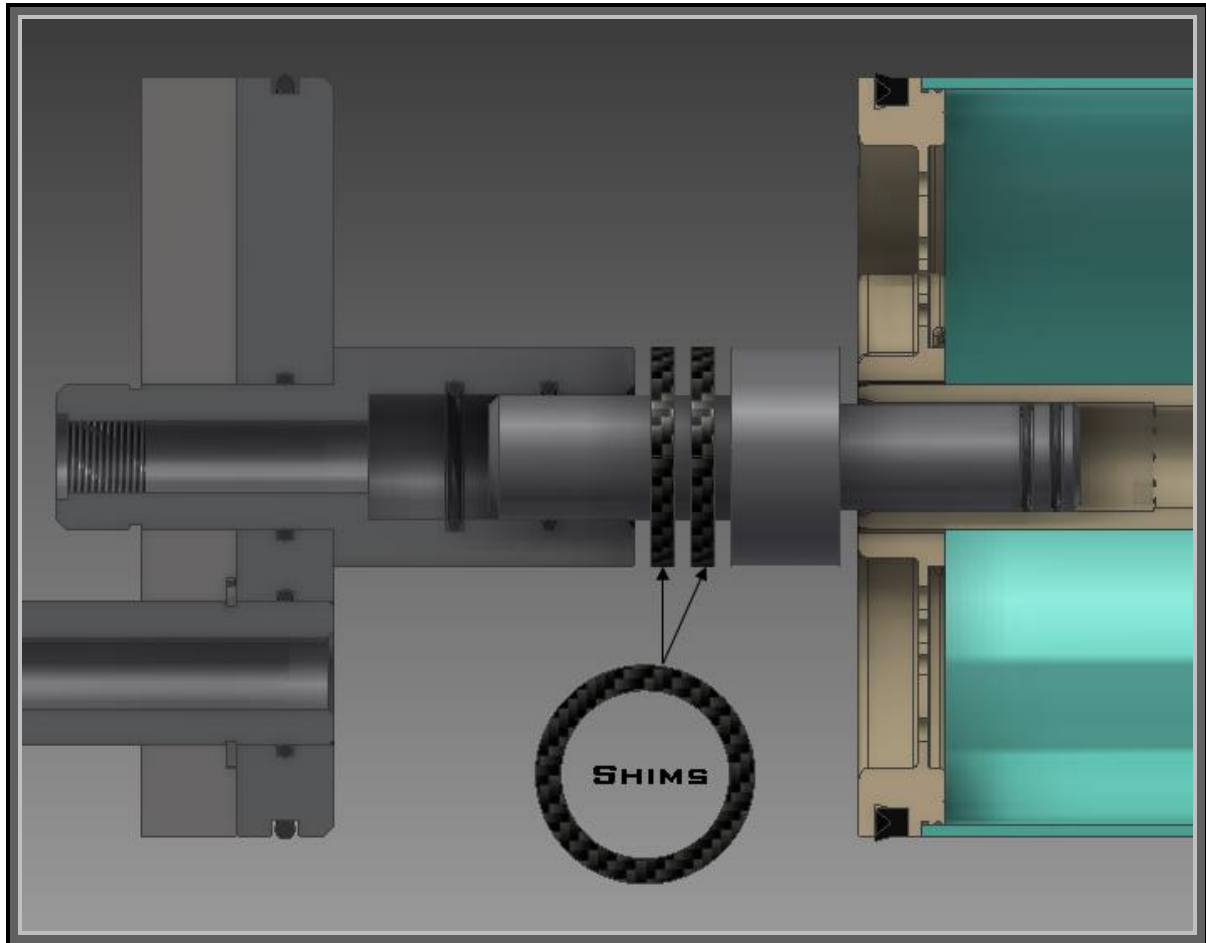

Figure 3 - Shimming
5. Gently remove end cap assembly from pressure vessel and measure the gap between adapter and permeate port (Figure 3).